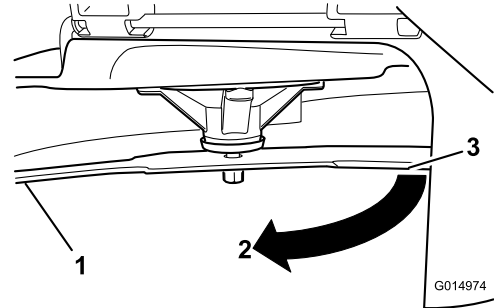

**Figure 52**
2. While wearing thickly padded gloves, or other adequate hand protection, slowly rotate the blade into a position that allows you to measure the distance between the cutting edge and the level surface the machine is on (Figure 52).